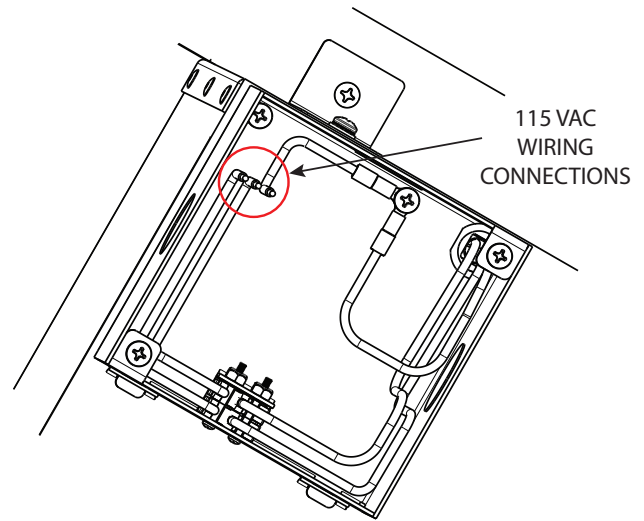
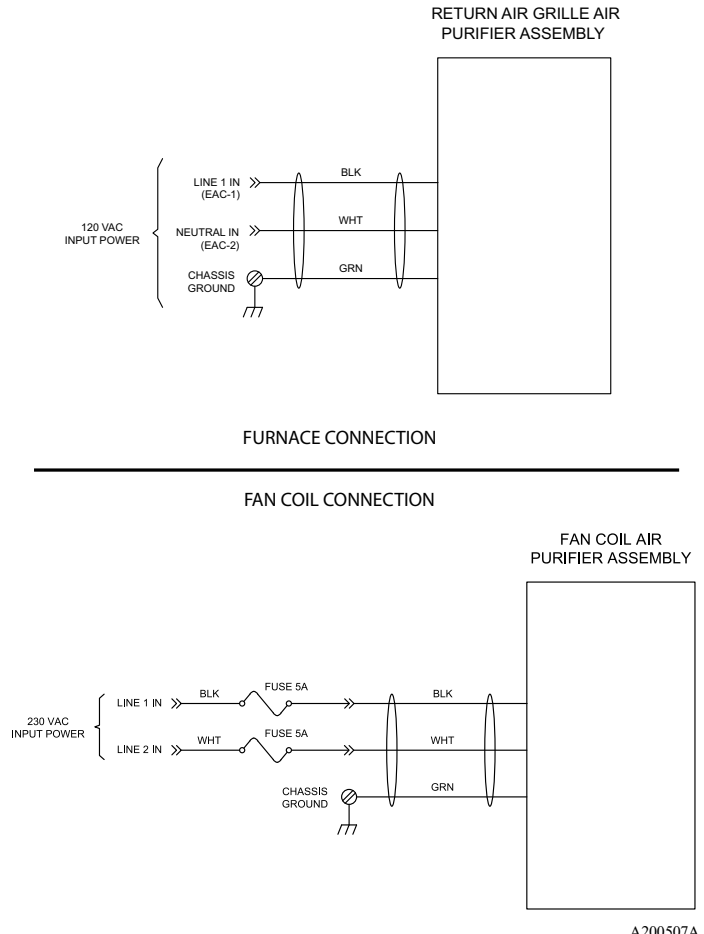
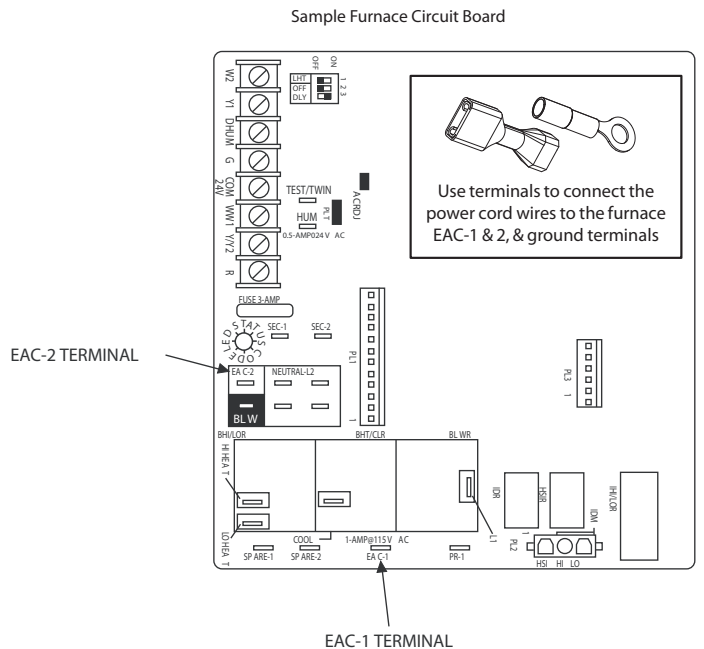

Fig. 8 – Connect Wiring to Unit
Fig. 15 – Furnace / Fan Coil Installation
Fig. 16 – Return Air Purifier Connection to Furnace
11. Electrical Connections (Fig. 8, Fig. 15, and Fig. 16):
2. Attach the quick connect terminals on the wires exiting the power conduit assembly to the furnace EAC-1 and EAC-2 spade connections. Attach the ground ring terminal on the third wire to furnace chassis ground (Fig. 15 and Fig. 16).
NOTE: The Return Air Purifier should only be powered when airflow is present. The furnace control EAC spade connections, shown in Fig. 16, provide power only when the furnace blower is operating. Return Air Purifier RGAPAXX1625 is designed to be powered from the electronic air cleaner (EAC) terminals on a furnace electronic control.
ground ring terminal on the third wire to fan coil air handler chassis ground (Fig. 15).